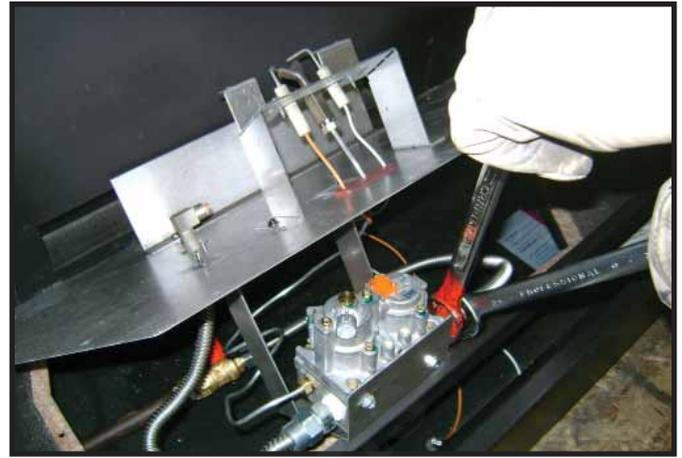

Figure 16.7 Disconnect Gas Valve
3. Set the valve bracket on the front lip of the firebox bottom. Turn "off" the ball valve. Disconnect gas valve from the gas flex ball valve assembly at the pressure fitting. See Figure 16.7.